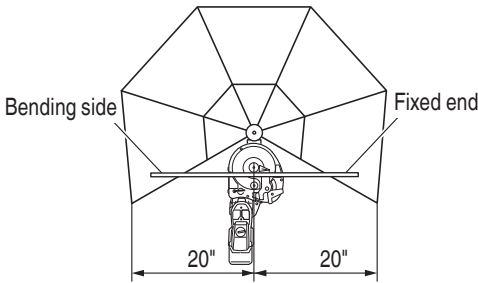

Fig. 50
(1) Be sure to install the deflection guard when bending a rebar whose bending length and the fixed length are 20" (inside dimension of deflection guard) or less (Fig. 50)